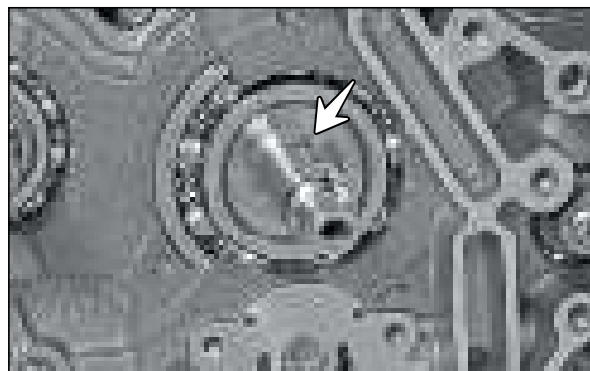

Fig. 3.132
- Take out key (4x4x15) from the crankshaft assembly. (Fig. 3.132)